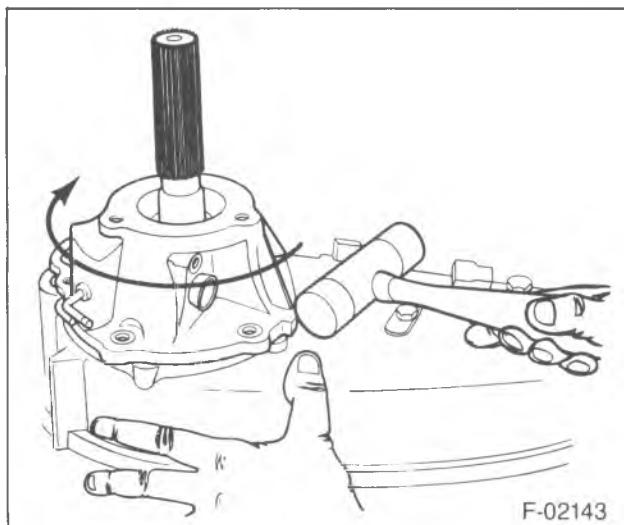
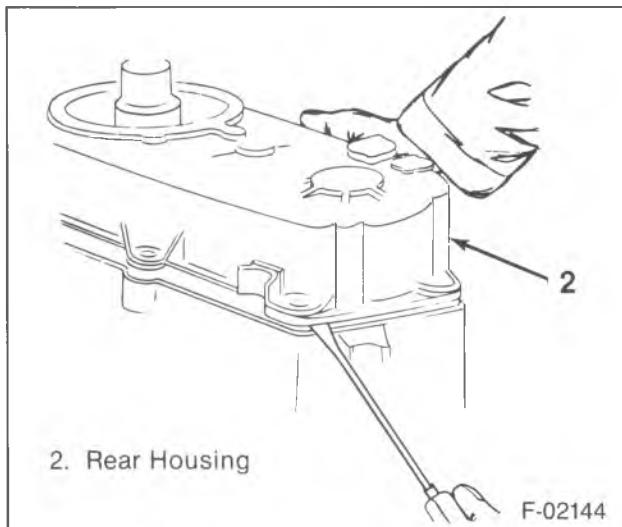

Figure 5—Rear Retainer Removal
Figure 6—Rear Housing Removal
- Using a hammer, tap the shoulder on the retainer to break the sealer loose (figure 5).
- 9. Rear retainer (7) from the case.
- 10. Pump housing (4) from the case.
- 11. Pump seal (3) from the pump housing (4). Discard the seal.
- 12. Case halves retaining bolts (17).
- 13. Rear case (2) from the front case (44).
- Insert screwdrivers into the slots casted in the case ends. Pry upward (figure 6).
- 14. Front output shaft (21) and drive chain (76) as an assembly.
- 15. Mode fork shaft (73) from the transfer case.